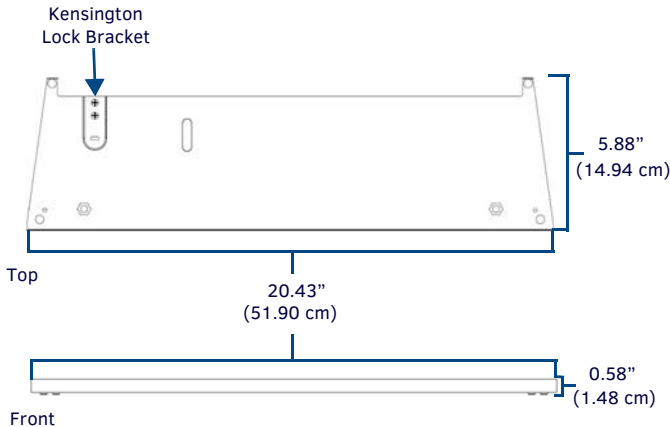
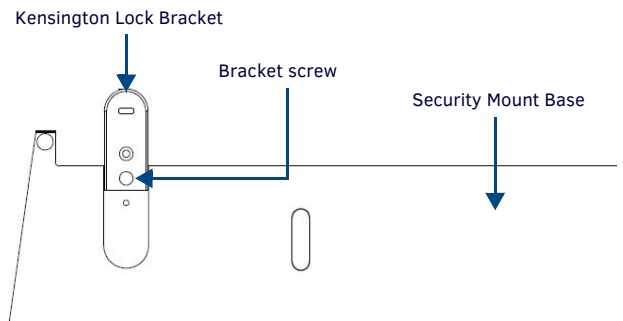

FIG. 1 MXA-STMK-20 SECURE TABLE MOUNT KIT
FIG. 10 KENSINGTON LOCK BRACKET INSTALLATION
- On the security mount base (FIG. 1), loosen the two screws holding the Kensington Lock bracket to the base (FIG. 10) and remove the bracket.
- Reverse the bracket in its slot so the rounded end faces outward (FIG. 10), and re-secure it to the security mount base with one of the two bracket screws. Use the screw hole in the security mount base and the screw hole closest to the square end of the Kensington lock bracket for the bracket screw: if the other holes are used, the bracket will not extend far enough past the base of the touch panel to allow the bracket to be used.